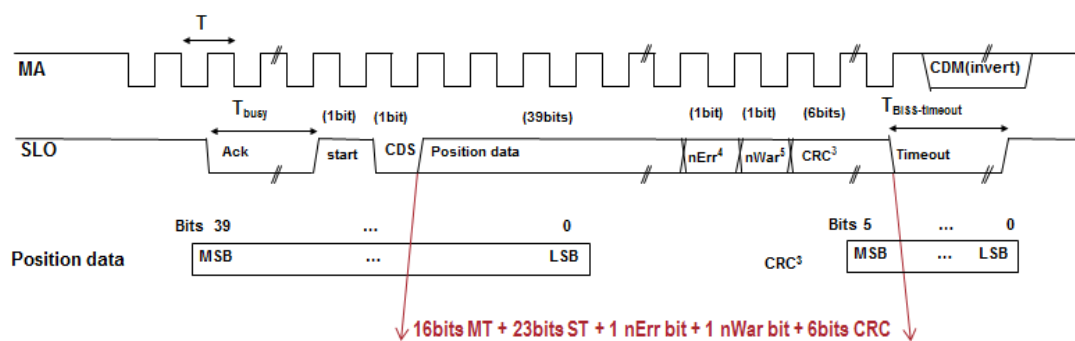

Figure 5: Timing Characteristics of MA and SLO
2. Refer to Figure 5 for timing description.